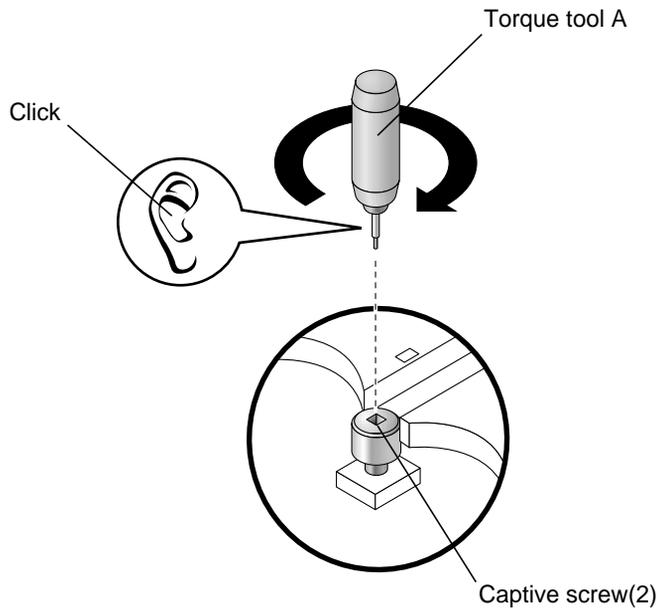

FIGURE 17 Torque Tool A Clicks When the Captive Screws Are Correctly Torqued
12. Repeat steps 10 and 11 until torque tool A clicks (see FIGURE 17).